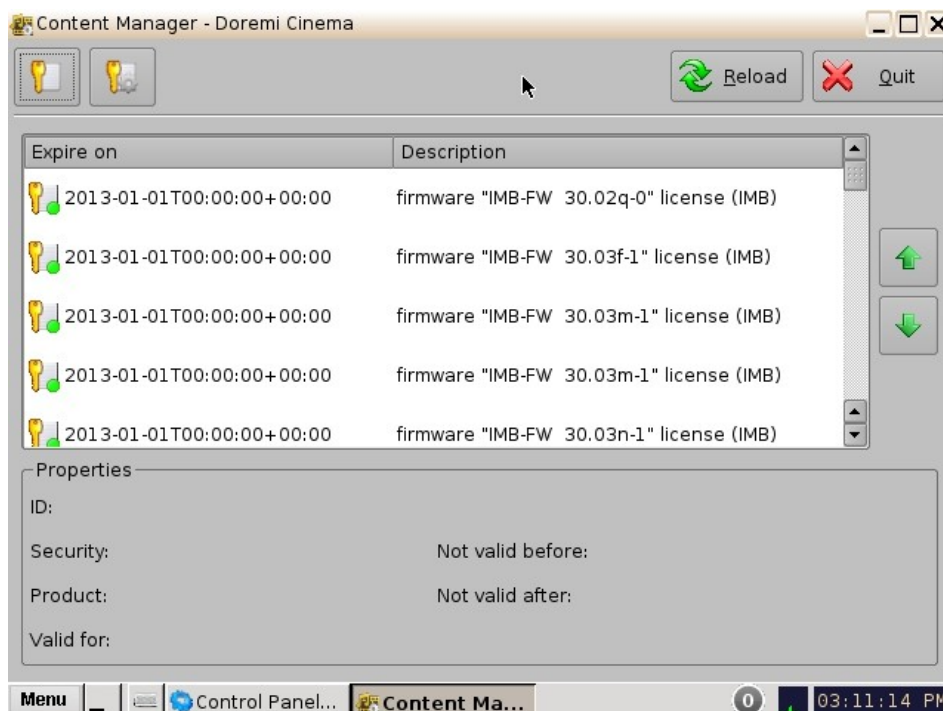

Figure 82: Licenses Page
- To get to the Licenses page click on the Home icon and select the Licenses menu item. The Licenses page will appear (Figure 82).